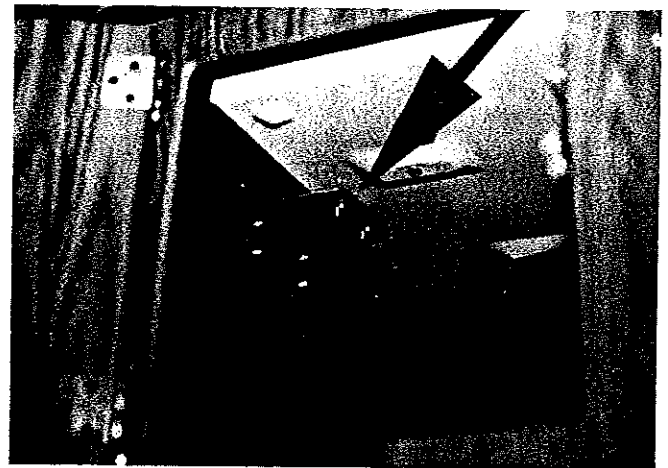

FIGURE 34
**WARNING:** Always ensure the retaining lock tabs are engaged when utilizing the stove in the inside location. See Figure 34.
- A. Turn the lock tabs (located on the underside of the stove) 90 degrees to unlock stove from retaining bracket. See Figure 34.